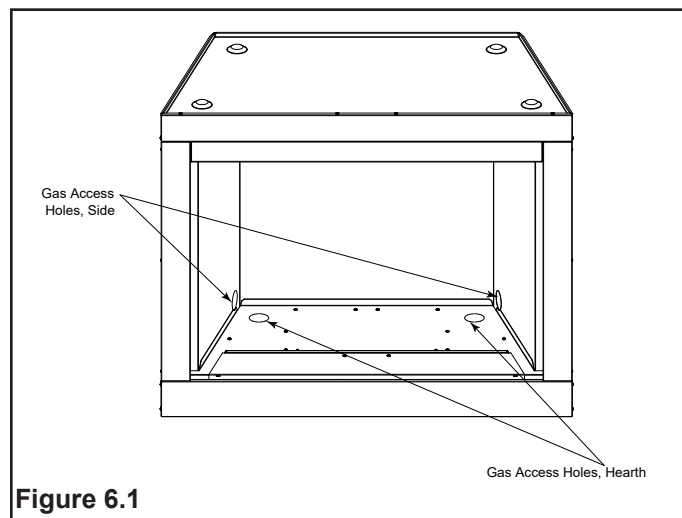

Figure 6.1
- The gas line may enter from the left side or right side of the firebox. Gas knockouts are provided on both side of the firebox, as well as on the firebox bottom. See Figure 6.1.